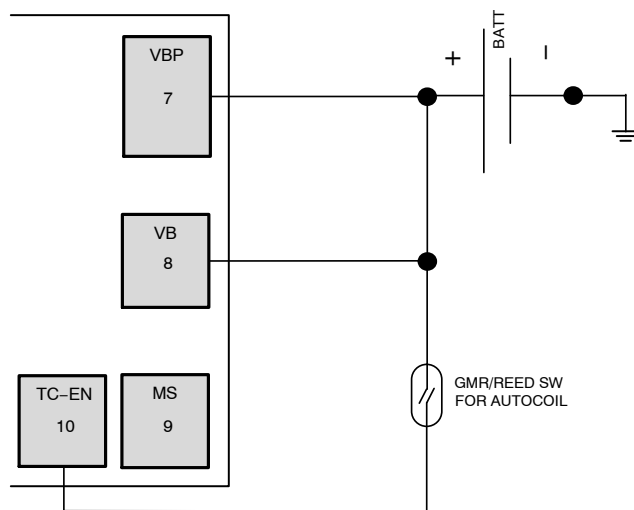

Figure 27. Wiring a Magnetic Switch (GMR or Reed) for Telecoil Control
- Figure 27 shows how to connect a magnetic switch to control telecoil.